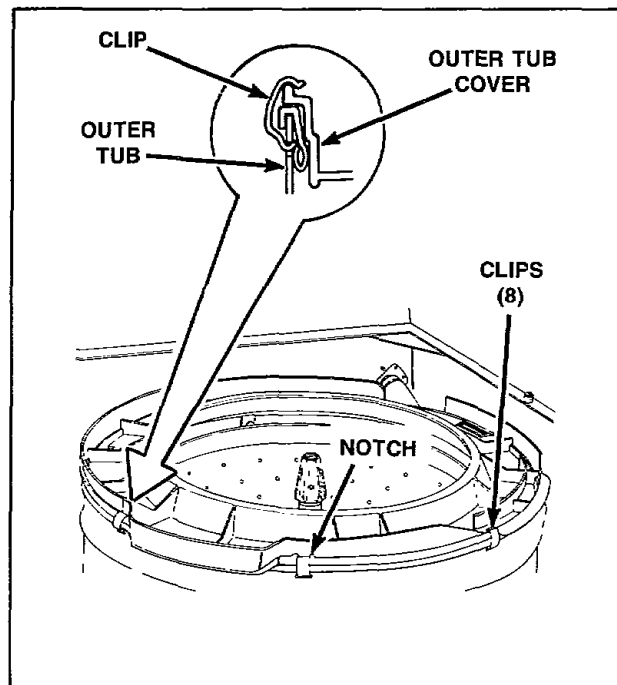

Figure 35
- Remove eight clips holding outer tub cover to tub, *Figure 35*.
NOTE: When installing outer tub cover, always use a new cover gasket. Lubricate the gasket with a rubber lube or liquid soap to aid in assembly. Cover must be placed on outer tub so notch on top edge of outer tub cover is directly over left front clip hole in tub, *Figure 35*. Starting with this hole, place each spring clip in its respective hole and snap in place. See *Figure 35* for proper clip installation.
- Disconnect filler hose from backflow preventer, then remove the eight clips holding cover to outer tub, *Figure 35*.
- d. Disconnect filler hose from backflow preventer, then remove the eight clips holding cover to outer tub, *Figure 35.*